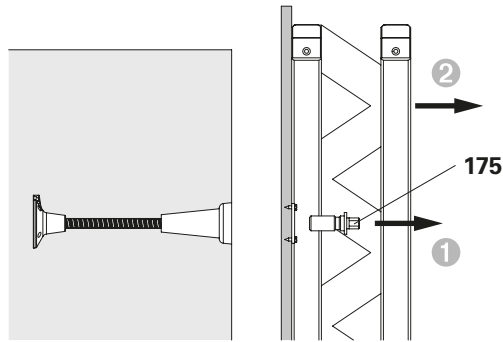

Fig. A3.25
1. Release and remove Positioning Screw M30 (175).
- (Fig. A3.25)